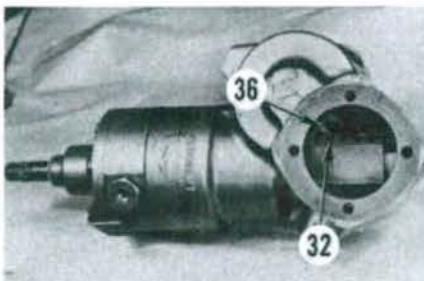
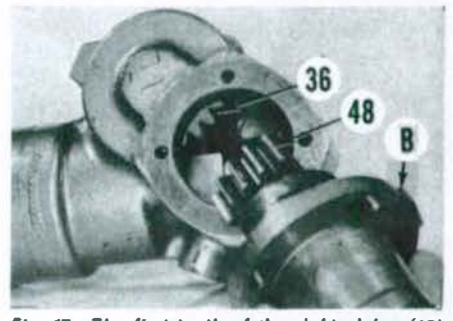

Fig. 16—The marked tooth of the left pinion (36) should be meshed with the center valley of rack (32).
Fig. 17—The first tooth of the right pinion (48) should be meshed with first valley of left pinion (36). Identification boss on housing is shown at (B).
Turn the installed steering shaft (31) until the rack (32) is at bottom of travel position the steering gear housing (34) as normally installed on the tractor and install the left pitman shaft and housing assembly. The flat identification boss on left housing should be down when installed. The marked third tooth on left pinion should be aligned with the center valley of the rack as shown in Fig. 16. Install retaining screws, then turn steering shaft until rack (32) is all the way up in housing. Align the first tooth on right pinion (48—Fig. 17) with first valley on left pinion (36) as shown. The identification boss (B) on right housing should be toward front as installed on tractor. After correct alignment is obtained, the right side pinion housing can be temporarily removed (while maintaining correct alignment) and housing filled through opening to capacity with Massey-Ferguson Permtran Oil or equivalent. Install the right pinion housing and right pitman shaft after filling with oil.